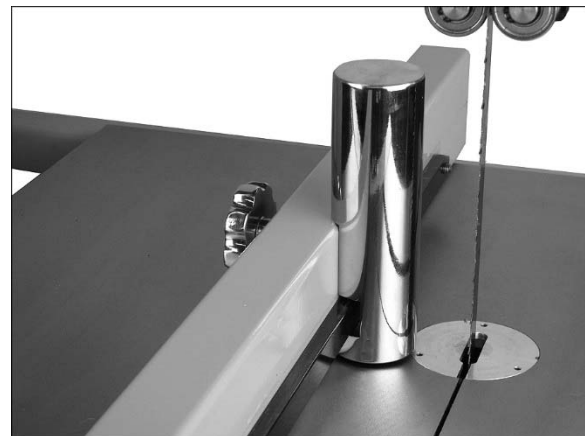

Figure 33: resaw pin
Refer to Figure 33.
1. Place a square against miter gauge face, and against flat of blade, as shown in Figure 33. (Place square against flat of blade, not the teeth which are set wider than the blade body). A wide blade is preferred for this procedure.
2. Flip 90° stop plate (C) out of the way, and loosen handle (A). Shift miter gauge body until it is flush with square, then retighten handle (A).
3. Flip stop plate (C) back down, and loosen 90° stop hex nut and adjust screw until it contacts the 90° stop plate.
5. Loosen set screw at base of pointer (B), and shift pointer so that it lines up with 90° mark on scale.